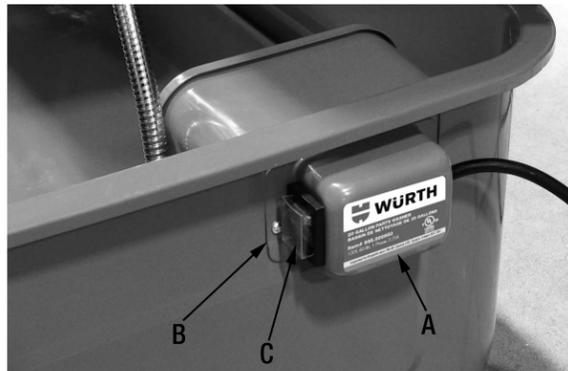

Figure 3
11. Install and secure pump housing by placing the switch (A) Fig.3 through the opening in the basin, clip the lip (B) of the pump housing onto the edge of the basin opening as shown.